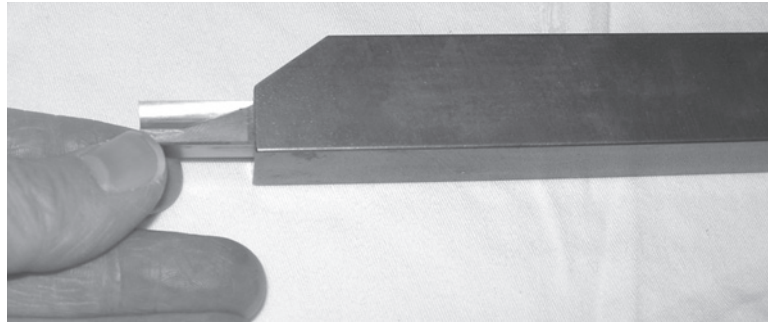

Figure 3-28. Insert the single-point tool in the holder as shown. Tighten the set screw (on the back) on the holder.
- 2.** Insert the single-point tool in the tool holder as shown in Figure 3-28. Tighten the set screw on the tool holder.